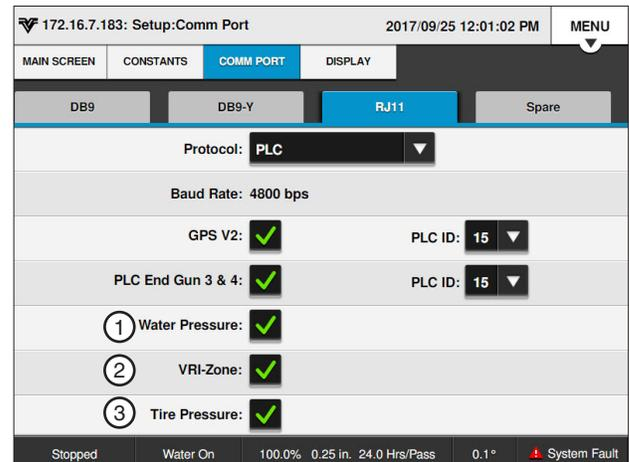

Figure 43-1 PLC Screen
2. Check the **Water Pressure** checkbox to enable the monitoring system. Refer to Figure 43-1.
VRI-Zone is used to set the protocol for the VRI-Zone option. Refer to Figure 43-1.
3. Check the Tire Pressure checkbox to enable the monitoring system. Refer to Figure 43-1.